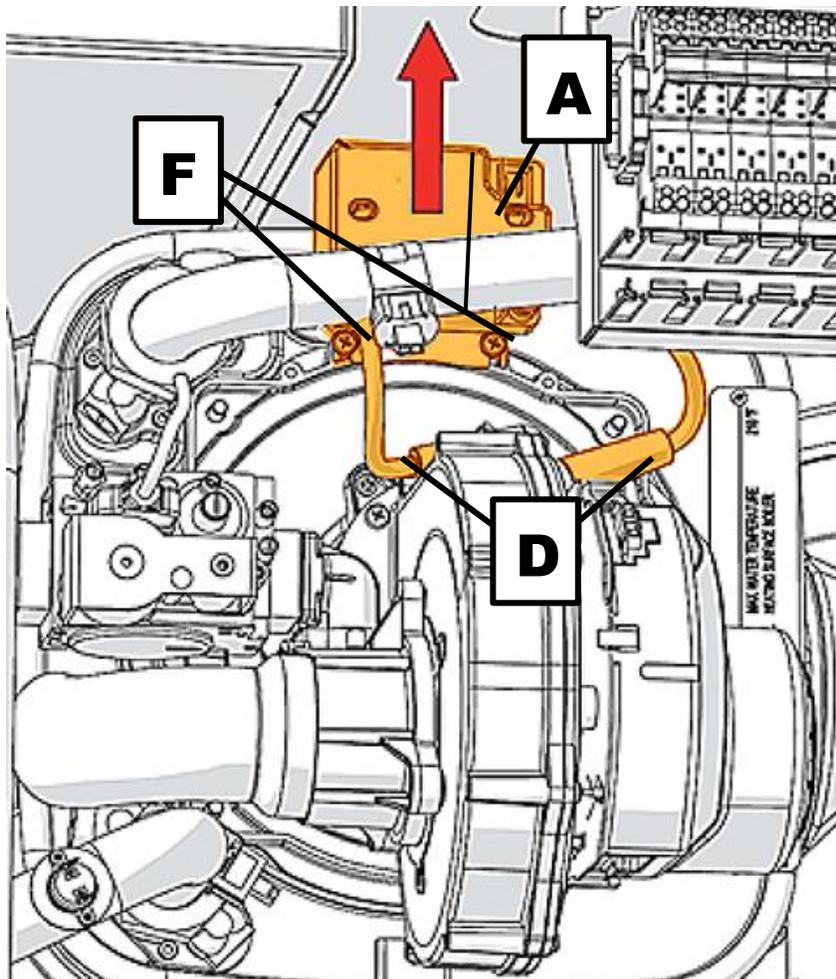

Figure 10-2: Removing the Spark Generator
4. Loosen screws “F” (Figure 10-2) and move up the spark generator “A”.